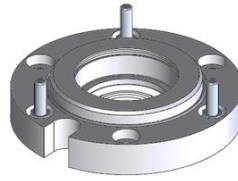

Figure 28: Bearing Housing Captive Bolts
- Ensure that the Bearing Housing Captive Bolts are in place (Figure 28).